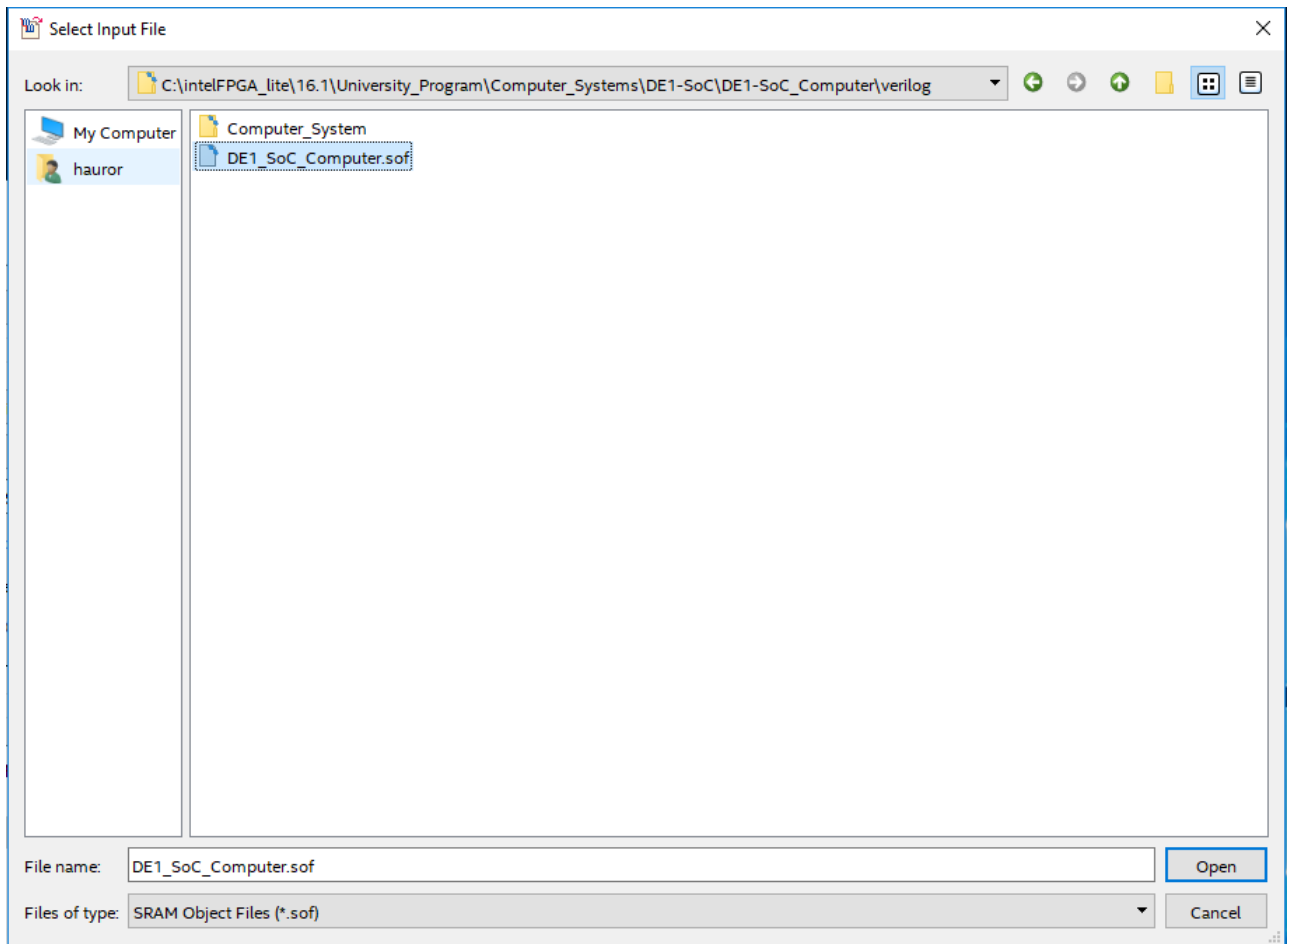

Figure 4: Convert SOF to JIC - Step 4
4. A window to select the file will open. As shown in Figure 4, the .sof file to be selected is: